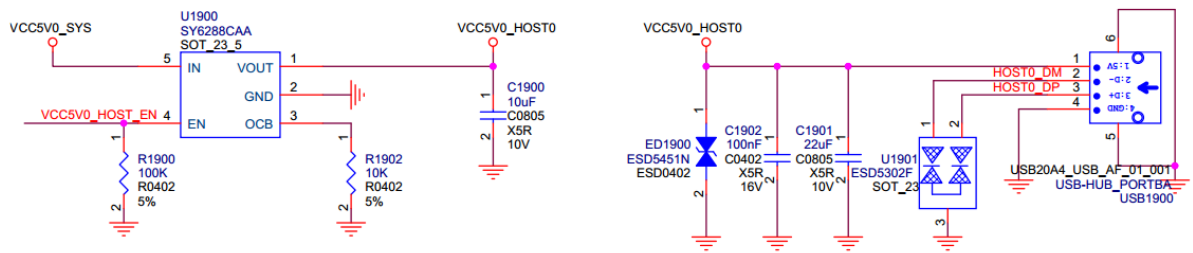
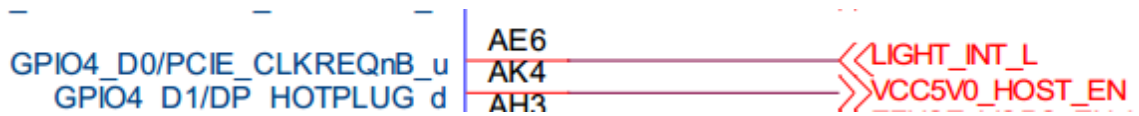

Figure 2-2 USB 2.0 Host VBUS control circuit and interface circuit
Figure 2-3 USB 2.0 Host VBUS GPIO controller pin
- The control circuit and interface circuit of USB 2.0 Host VBUS are shown in Figure 2-2 and Figure 2-3